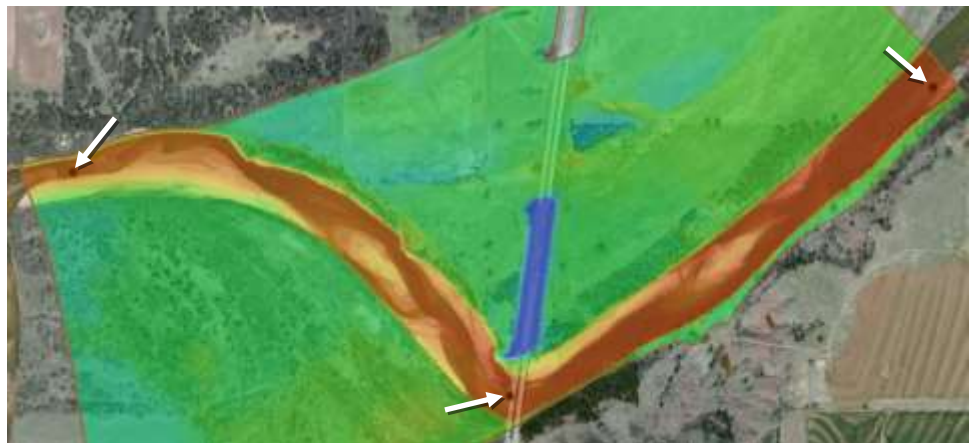

Figure 3 Monitor points at upstream, midway between, and downstream
5. Using the **Create Feature Point** tool, create three monitor points as shown in Figure 3.